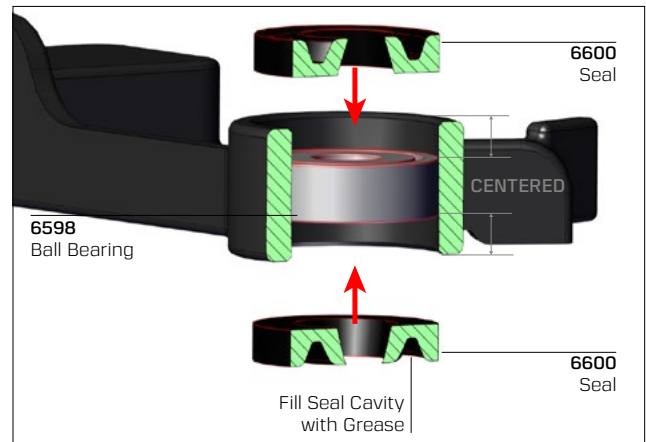

Fig. 11.
- B. Position new **#6600** seal over bore of hub (flat side toward the bearing) as shown in Fig. 11. Place flat piece of smooth metal or wood on top of seal and use a hammer to lightly tap seal into bore until seal contacts